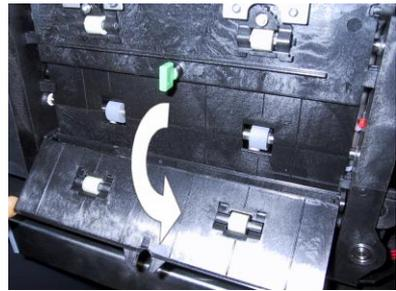

Fig. 7-8. Unlock and lower middle access door to check for stuck notes.
6. Release the **middle access door (refer to Figure 7-8)**. Carefully lower the door to expose the feed path. Remove any notes.